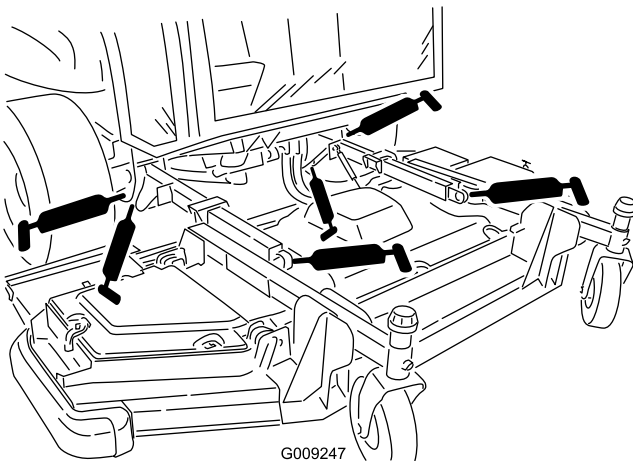

Figure 55
- Lift arm bushings (2) (Figure 55)
- Lift arm ball joints (2) (Figure 55)
- Front Deck Lift cylinder pivots (2) (Figure 55)